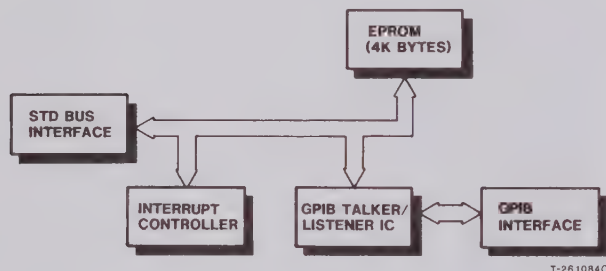

Fig. 11 - GPIB Board Functional Block Diagram
5.23 The GPIB board (see Fig. 11) provides an interface between the STD bus and the IEEE-488 interface. Most of the interfacing is handled automatically by an Intel 40-pin LSI device. GPIB activity causes status bits to be set in this IC which generates an interrupt to alert the CPU that something has happened. The CPU reads status and data from the GPIB IC and determines what software action to take.